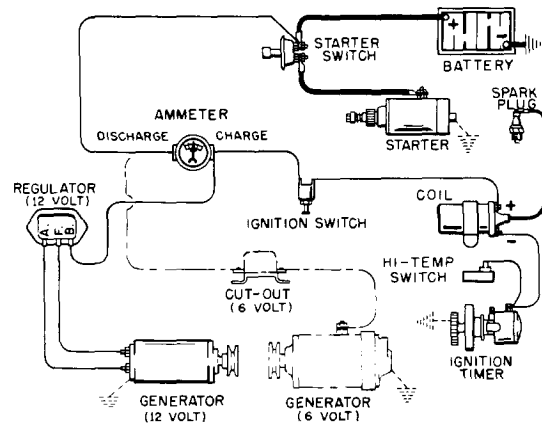

Fig. 16, STARTER AND GENERATOR WIRING
7. Mount timer cover and connect primary wire from ignition timer to coil. See wiring diagram, Fig. 16.
The wiring diagrams, Fig. 16 and 17, illustrate *negative ground* circuits. If polarity of generator or motor-generator is for a positive ground circuit (engines built previous to serial No. 3991018), terminal connections at ammeter, coil and battery are just reversed from those illustrated.